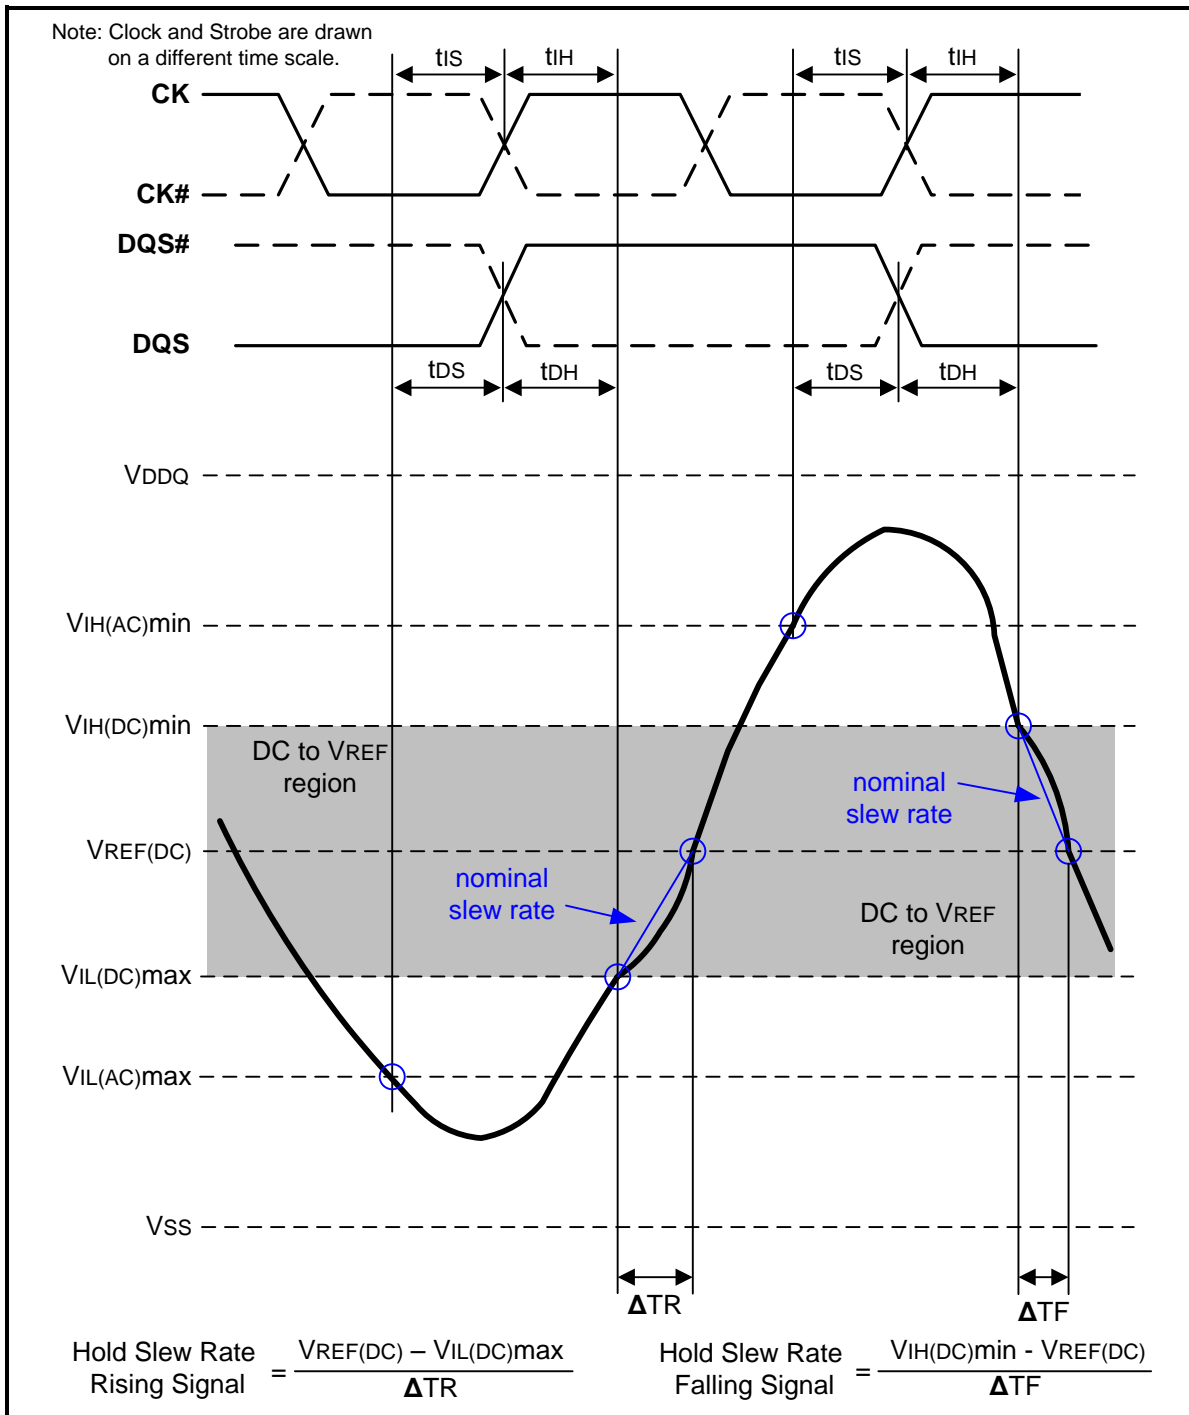
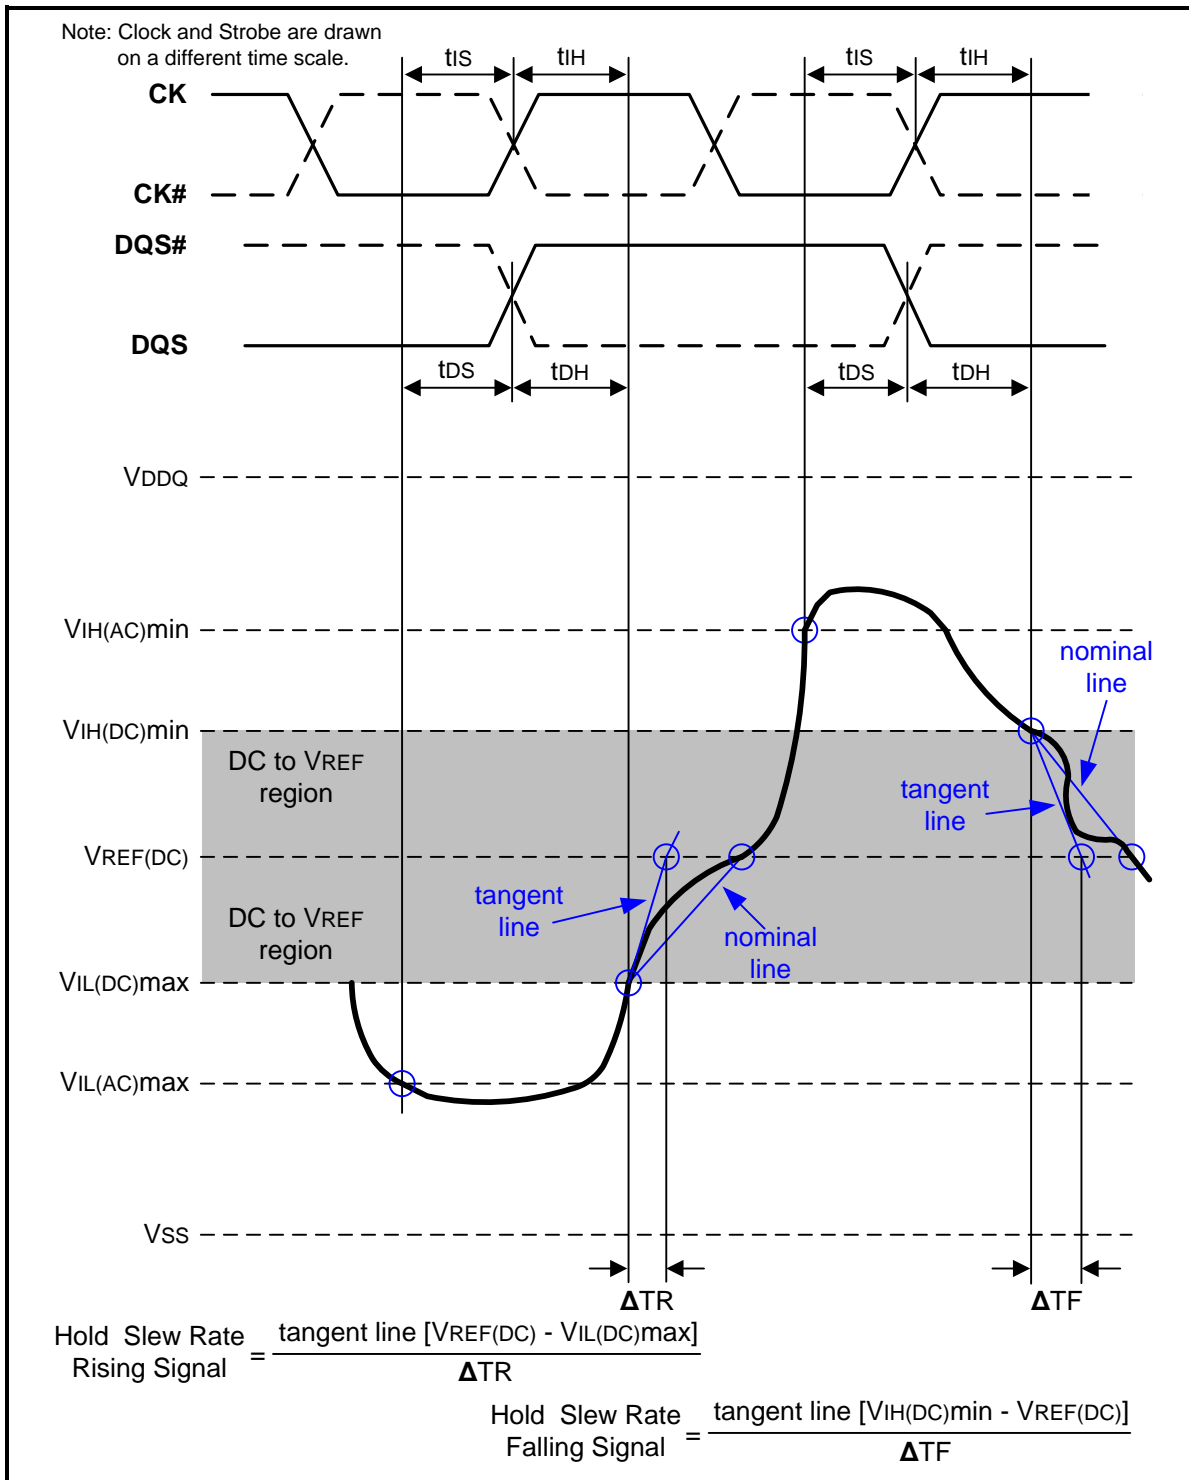

Figure 108 – Illustration of nominal slew rate for hold time tDH (for DQ with respect to strobe) and tIH (for ADD/CMD with respect to clock)
Figure 110 – Illustration of tangent line for hold time tDH (for DQ with respect to strobe) and tIH (for ADD/CMD with respect to clock)
Hold (t_{IH}) nominal slew rate for a rising signal is defined as the slew rate between the last crossing of $V_{IL(DC)max}$ and the first crossing of $V_{REF(DC)}$. Hold (t_{IH}) nominal slew rate for a falling signal is defined as the slew rate between the last crossing of $V_{IH(DC)min}$ and the first crossing of $V_{REF(DC)}$. If the actual signal is always later than the nominal slew rate line between shaded 'DC to VREF(DC) region', use nominal slew rate for derating value (see Figure 108). If the actual signal is earlier than the nominal slew rate line anywhere between shaded 'DC to VREF(DC) region', the slew rate of a tangent line to the actual signal from the DC level to $V_{REF(DC)}$ level is used for derating value (see Figure 110).
Hold (tDH) nominal slew rate for a rising signal is defined as the slew rate between the last crossing of VIL(DC)max and the first crossing of VREF(DC). Hold (tDH) nominal slew rate for a falling signal is defined as the slew rate between the last crossing of VIH(DC)min and the first crossing of VREF(DC) (see Figure 108). If the actual signal is always later than the nominal slew rate line between shaded 'DC level to VREF(DC) region', use nominal slew rate for derating value. If the actual signal is earlier than the nominal slew rate line anywhere between shaded 'DC to VREF(DC) region', the slew rate of a tangent line to the actual signal from the DC level to VREF(DC) level is used for derating value (see Figure 110).